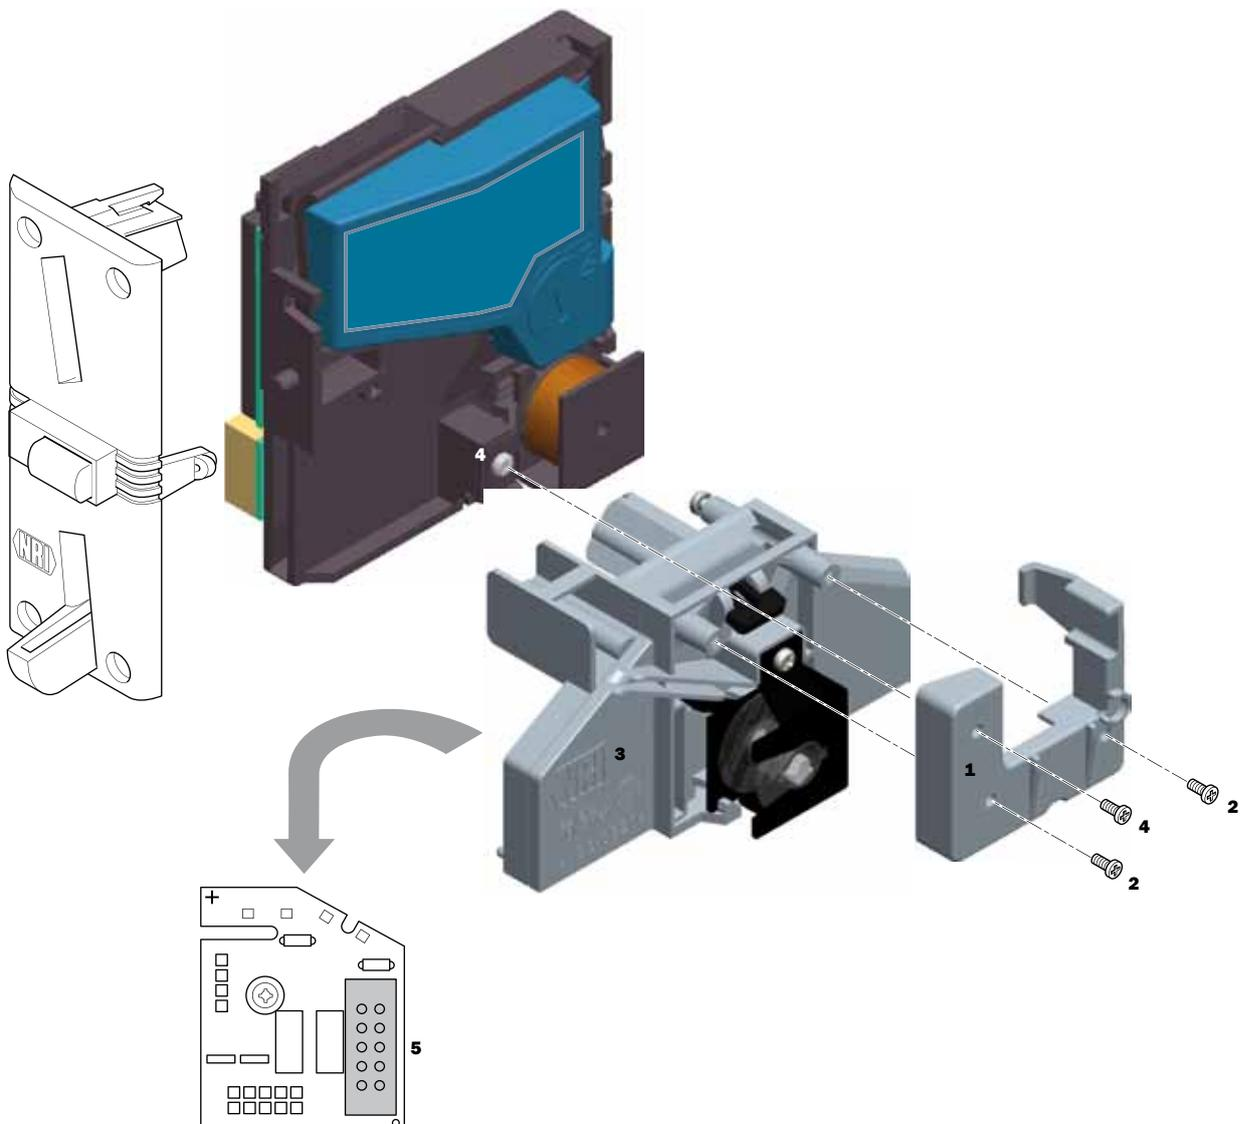

Fig. 11: Connecting the front entry version of the v2 colibri to the s2 SSD-3004 3-fold sorter
- 1** If necessary, fasten the retaining plate [Fig. 11/1] with the two screws [Fig. 11/2] to the sorter [Fig. 11/3].
- 2** Remove the screw [Fig. 11/4] from the coin validator.
- 3** Using the retaining plate [Fig. 11/1], plug the sorter from the right onto the coin validator.
- 4** Fasten the sorter [Fig. 11/3] on the coin validator with the screw [Fig. 11/4].
- 5** Connect the sorter [Fig. 11/3] to the coin validator by means of the 10-pin sorting connector [Fig. 11/5] on the back of the sorter and of the coin validator with the help of the associated sorting cable.